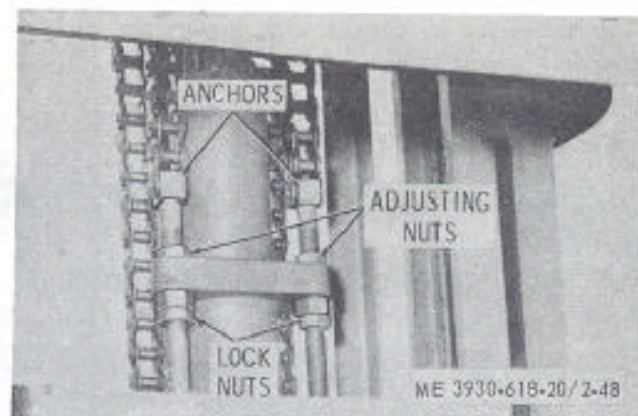

Figure 2-48. Lift chain adjustment.
c. Adjustment. When it is apparent that the carriage assembly is not level or the forks do not touch the floor when the lift cylinder is fully retracted, the lift chains must be adjusted. Refer to figure 2-48 and proceed as follows:
(1) Make sure that the mast is vertical and the inner mast and lift cylinder are fully retracted.
(2) Loosen the locknuts and adjusting nuts at the chain anchors on the lift cylinder.
(3) Adjustment is made by turning the adjusting nuts. Tighten or loosen one side and then the other until the chains are a snug fit.
(4) Make sure the tension is equal and the carriage assembly is level.
(5) Tighten locknuts. Make sure the adjustment is not disturbed.